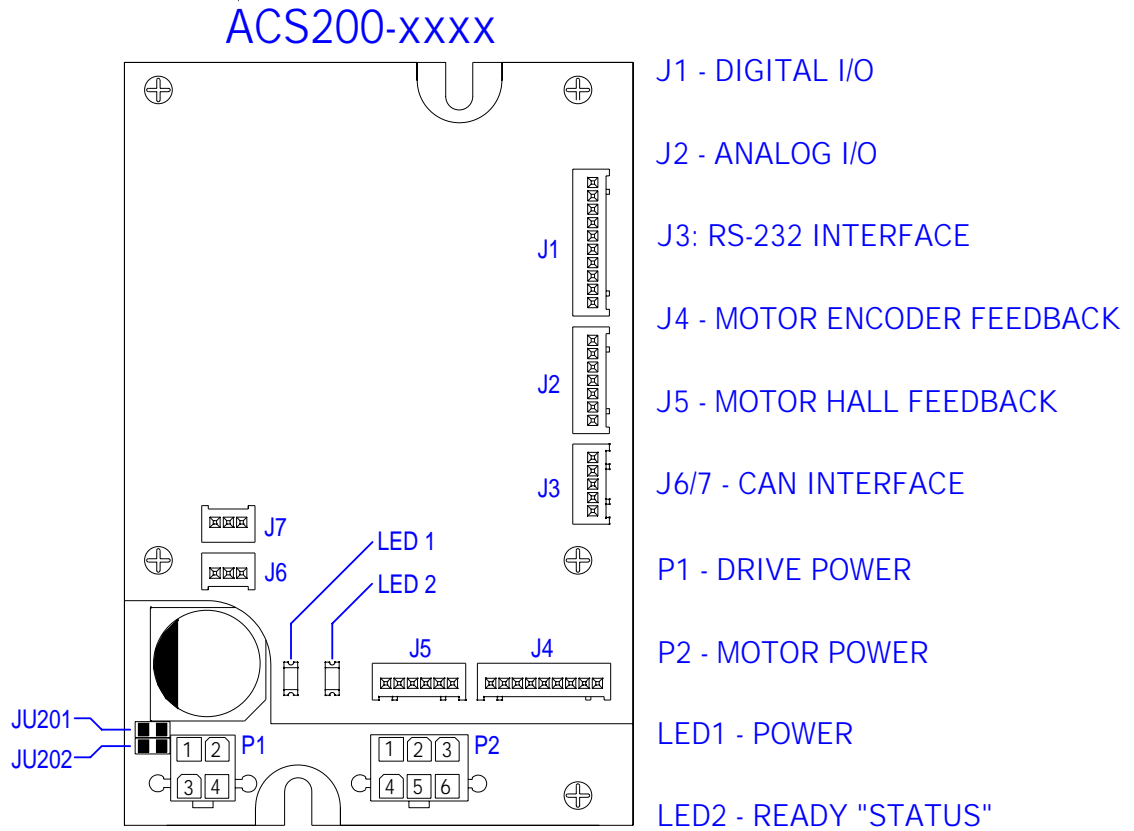

Figure 2: ACS200 Connector Layout
- ❖ Jumpers JU201 and JU202 are located next to the power input connector P1; See Figure 2.
Drive specific I/O operates independent of the user selected operating mode. Drive specific I/O signals have fixed functionality. These signals are used to interface the ACS200 to an outside control system. They provide signals for enabling, disabling, and monitoring the status of the ACS200. For visual reference to the ACS200 connectors, see Figure 2 below.